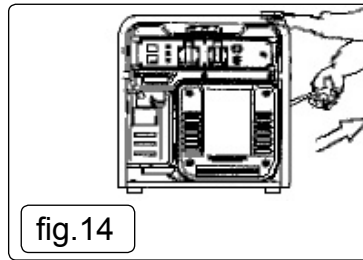

fig.14
- 4.10.5. Grasp the carrying handle to prevent the generator from falling over. Pull slowly on the recoil starter until it is engaged, then pull it briskly fig.14.